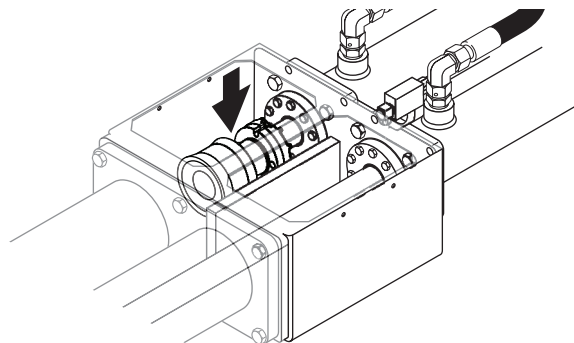

Figure 27
3. Hold the new ram up to the cylinder flange. Line up the grooves, and drop your nut and bolt into place to hold the assembly together (Figure 27). Tighten the nut only finger-tight.